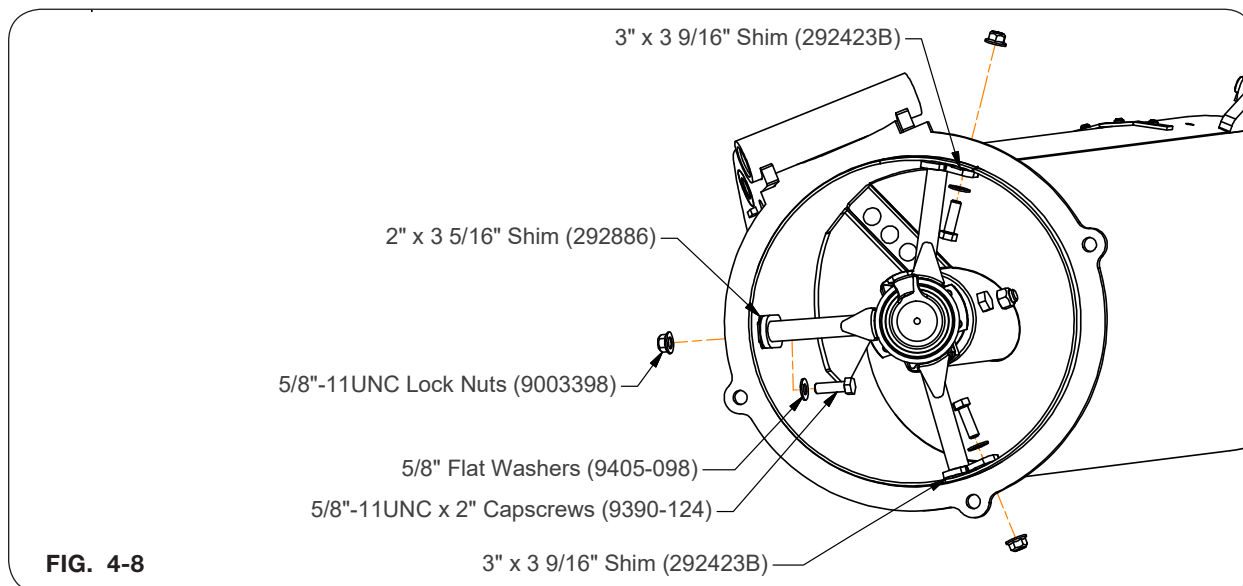

FIG. 4-8
2. Remove the three 5/8"-11UNC x 2" capscrews (9390-124), 5/8" flat washers (9405-098), 5/8"-11UNC lock nuts (9003398) and shims that secure the hanger bearing bracket to the auger tube. (FIG. 4-8)